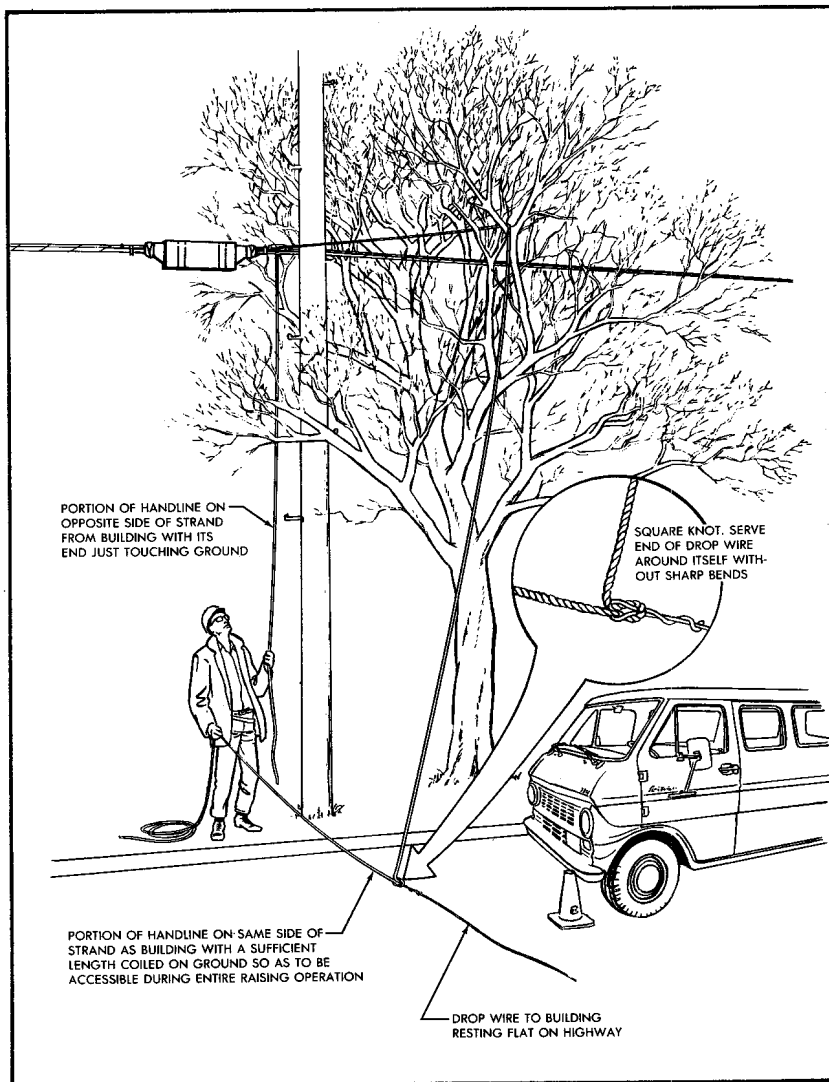

FIGURE 6. Drop Wire Tied to Handline
(1) When placing the handline over the strand, guard arm, drive hook, or crossarm, locate it among the branches of the tree (Figure 6) so the drop wire may be raised to the proper position. A wire raising tool may be used to facilitate this operation. After the handline has been placed, tie it to the base of the pole or the lower rungs of the ladder to avoid interference with pedestrians or vehicles.
(b) Tie the end of the drop wire to the handline (Figure 6) at a point in that portion of the handline toward the building which will permit access to both ends of the handline from a position on the ground during the entire raising operation.